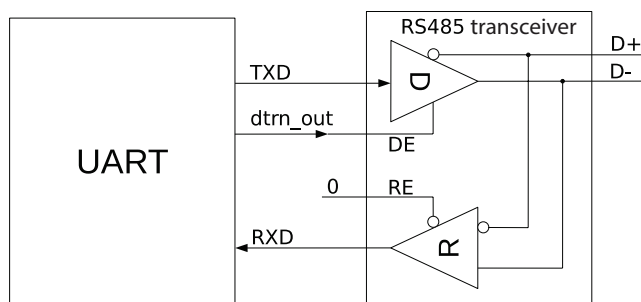

Figure 19-8. Driver Control Diagram in RS485 Mode
As shown in Figure 19-8, in a two-wire multidrop network, an external RS485 transceiver is needed for differential to single-ended conversion. An RS485 transceiver contains a driver (D) and a receiver (R). When a UART controller is not in transmitter mode, the connection to the differential line can be broken by disabling the driver (D). When `DE` is 1, the driver is enabled; when `DE` is 0, the driver is disabled.
`DE` can be controlled by either software or hardware. To reduce the cost of software, in our design, `DE` is controlled by hardware (can still be controlled by software). As shown in Figure 19-8, `DE` is connected to `dtrn_out` of UART (please refer to Section 19.4.9.1 for more details).
In a two-wire multidrop network, UART controllers support bus snooping if RE of the external RS485 transceiver is 0. By default, a UART controller is not allowed to transmit and receive data simultaneously. If UART_RS485TX_RX_EN is set and the external RS485 transceiver is configured as in Figure 19-8, a UART controller may receive data in transmitter mode and snoop the bus. If UART_RS485RXBY_TX_EN is set, a UART controller may transmit data in receiver mode.